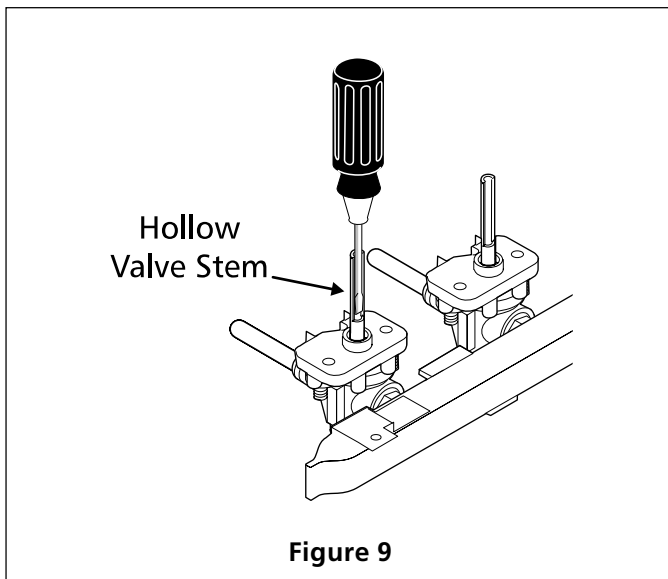

Figure 9
4. Adjust the "LO" or "SIMMER" Setting of Surface Burner Valves (see Figure 9)